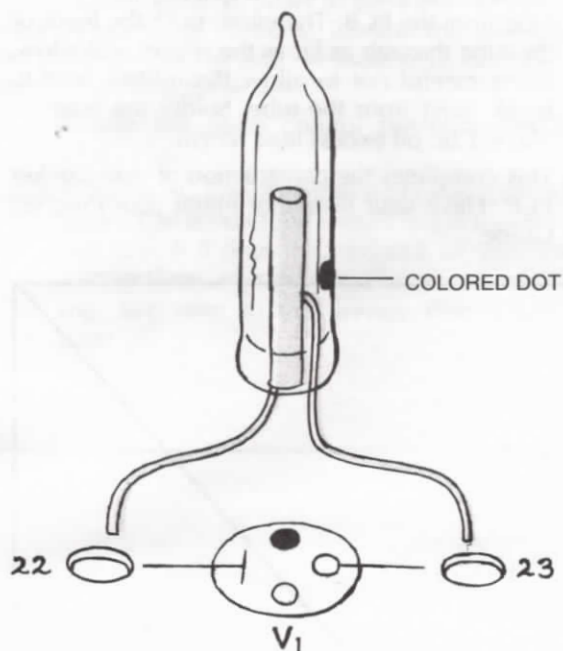

FIG. 39
9. Carefully bend the leads of the trigger tube V1 so they align themselves over holes 22 and 23. Insert the lead nearest to the white dot on the tube through hole 23. Insert the other lead through hole 22. (Refer to Figure 39.)